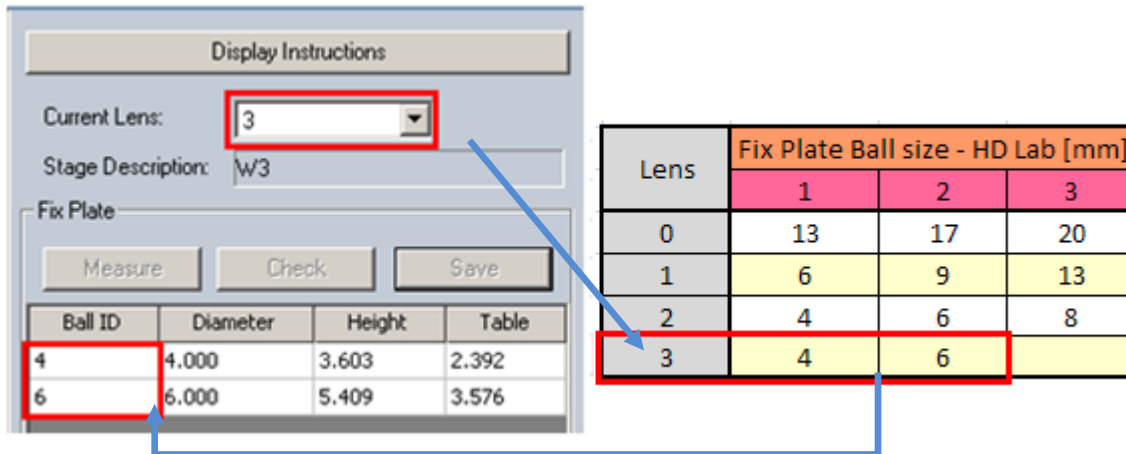

Fig 4.9
3. Ensure that the stone parameters are correct according to the lens. See figure 4.9.